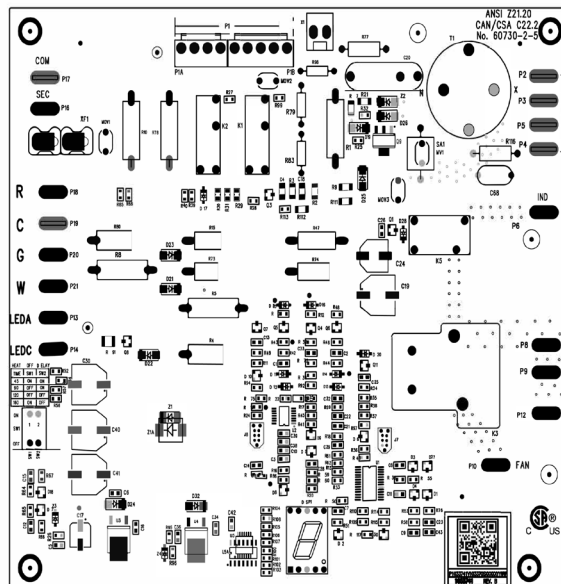
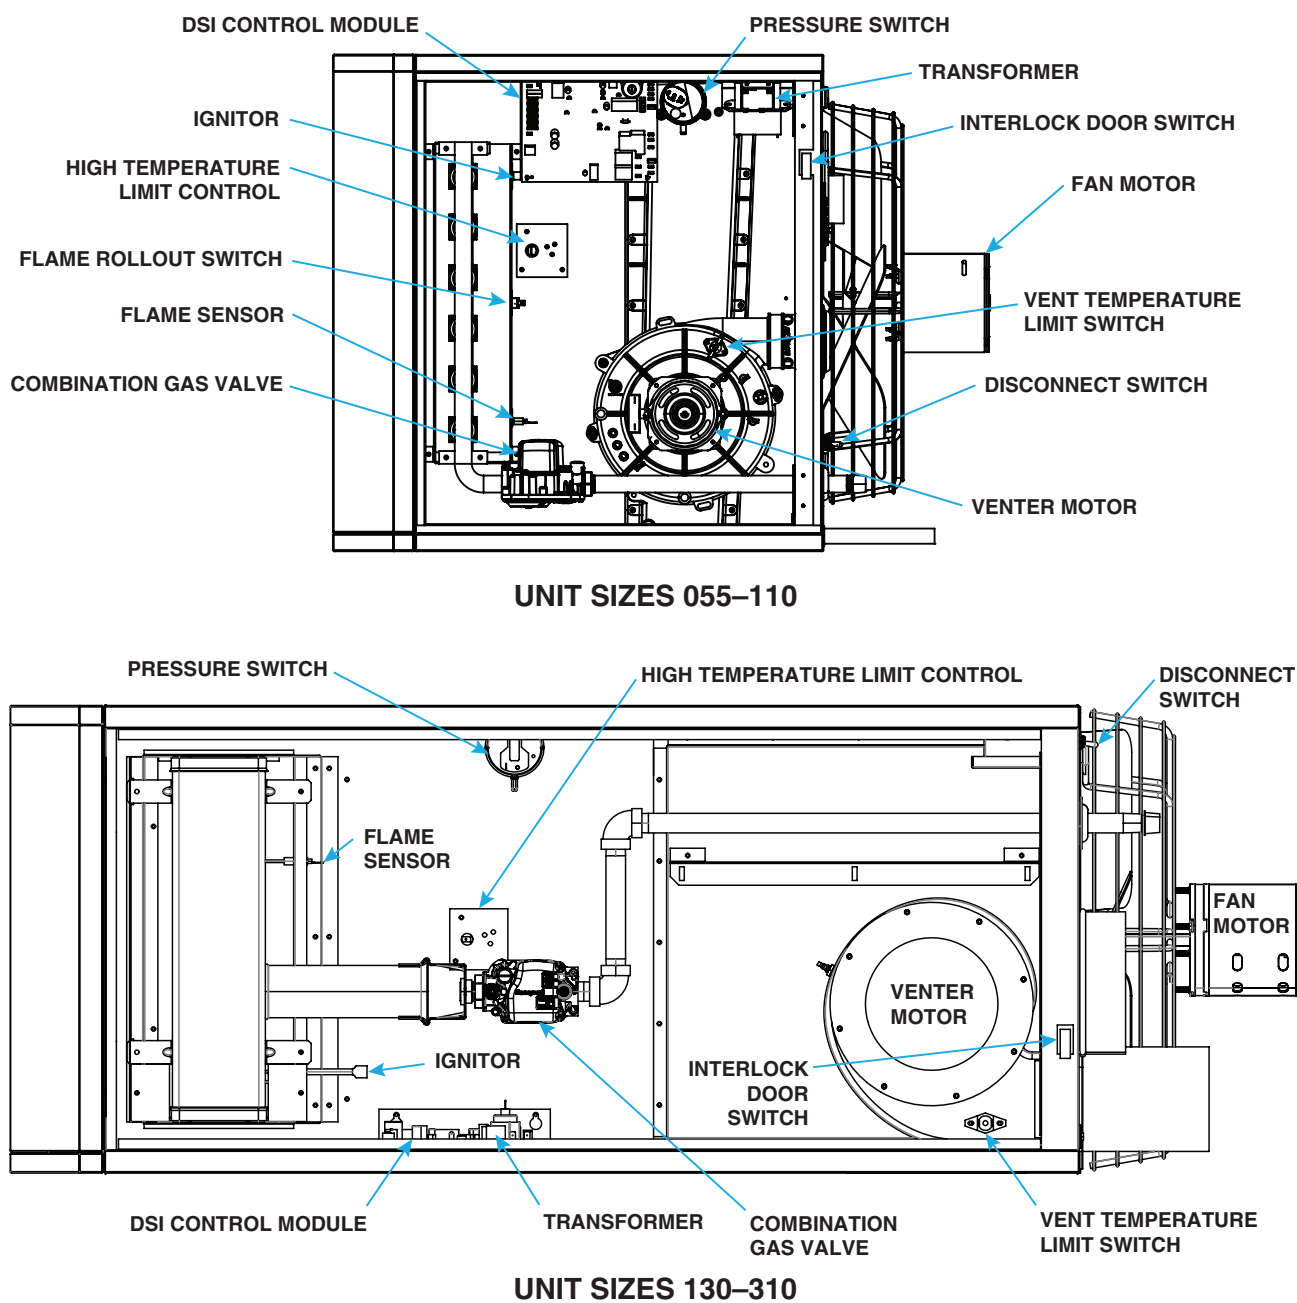

Figure 25. Circuit Board (DSI Control Module)
Figure 26. Component Locations
- The circuit board (see **Figure 25**) is located inside on the bottom of the control compartment. The circuit board is polarity sensitive. It is advisable to check the electrical supply to ensure that the black wire is the **hot** wire and that the white wire is the **neutral** wire. The **hot** wire must be connected to terminal L1 on the circuit board.
Locations for the following controls are shown in **Figure 26**.
The combination gas valve (see Figure 26 for location) is powered by the 24V control circuit through the thermostat and safety controls. The diaphragm-type valve is pre-set at the factory and provides regulated gas flow.
- The pressure (combustion air proving) switch (see Figure 26 for location) is a pressure-sensitive switch that monitors air pressure to ensure that proper combustion airflow is available.
All units are equipped with a temperature-activated, automatic-reset high temperature limit control (see Figure 26 for location). The control is factory-set and is non-adjustable. If the setpoint is reached, the control interrupts the electric supply to the combination gas valve. This safety device provides protection in the case of motor failure or lack of airflow due to a restriction at the inlet or outlet.
All units are equipped with a temperature-activated, manual-reset switch to limit the temperature of vent gases to below 145°F. The switch is attached to the side of the combustion air venter housing (see Figure 26 for location). If the setpoint is reached, the switch interrupts the electric supply to the combination gas valve. If the switch is activated, identify and correct the cause before resetting the switch.
All units are equipped with an interlock door switch (see Figure 26 for location) that prevents the heater from operating when the service door panel is open. The service panel is equipped with a pliable gasket that fully seals the door to provide added protection to prevent building air from entering the combustion zone of the heater.
The heater's ignition system is controlled by a circuit board (Direct-Spark Integrated (DSI) control module, see Figure 25) that monitors the safety devices and controls the operation of the fan and venter motors and the combination gas valve between heat cycles. To view the Seven-Segment Display (SSD), the door panel requires removal. In addition, there is a status LED on the bottom of the heater. Its status indications are **off** (heater is not powered or control board fault), **steady on** (heater is on with no faults), or **flashing** (heater is on with fault(s)). Additional status indications appear on the display at the bottom of the control module (labeled as DSP1, see Figure 25). The display's codes are listed and described in the Unit Troubleshooting Using DSI Control Module section.
The venter motor (see Figure 26 for location) is assembled to the venter wheel and operates to provide combustion airflow. Operation is controlled by the circuit board (see Figure 25). Refer to the Circuit Board \(DSI Control Module\) section for details.
Unit sizes 55, 85, and 110 are equipped with a temperature-activated, manually-reset flame rollout switch (see Figure 26 for location). The switch is factory-set and is non-adjustable. If the setpoint is reached, the switch interrupts the electric supply to the combination gas valve. If the flame rollout switch activates, identify and correct the cause before resetting the switch.